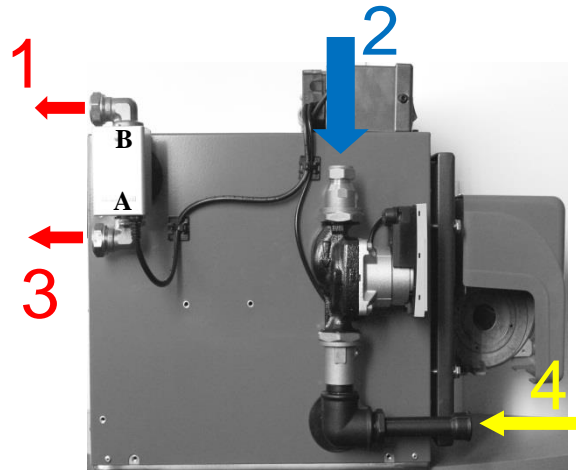

Fig 2
- Always assemble the expansion tank in the return pipe (see fig 2) as near as possible to the boiler.
HR calorifier boiler (fig 2)
4. Assemble the separately supplied filler tap and drain combination at point 4 (see fig 2).
3. Assemble the separately supplied filler tap and drain combination at point 4 (see fig 2).
The loose fill and drain combination is mounted at point 4 (see figure 2, page 8). Connect your hose on to open the fill and drain combination black button. Open tap the left and put the kettle on 2 bar pressure (see pressure gauge). Vent the entire heating system and put the heating system is between 1.5 and 2 bar pressure.